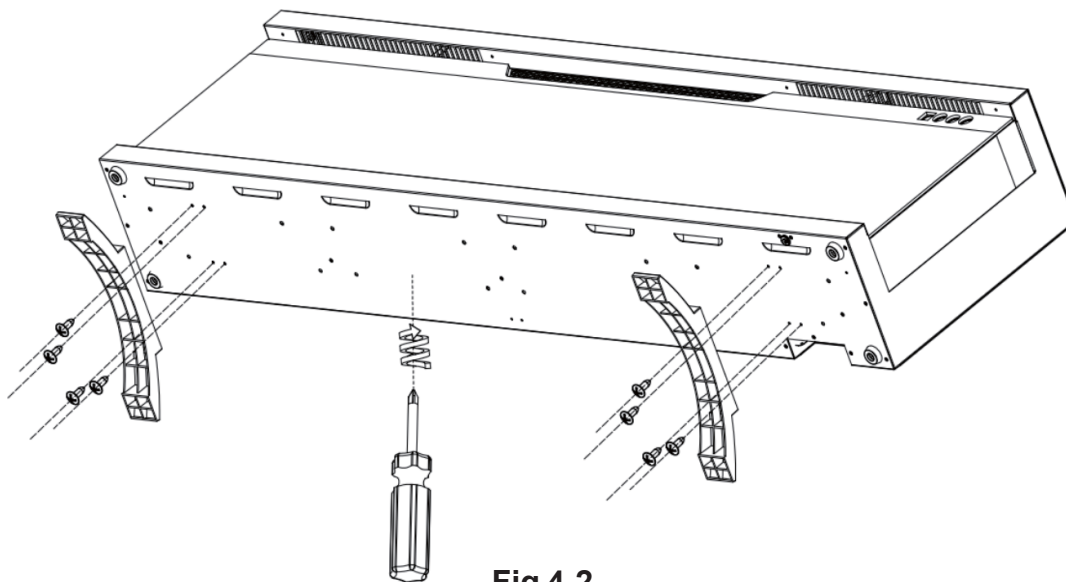

Fig 4-2
B. Using the screws previously removed, attached the two feet (supplied) to the bottom of the fireplace box. (**Fig 4-2**)